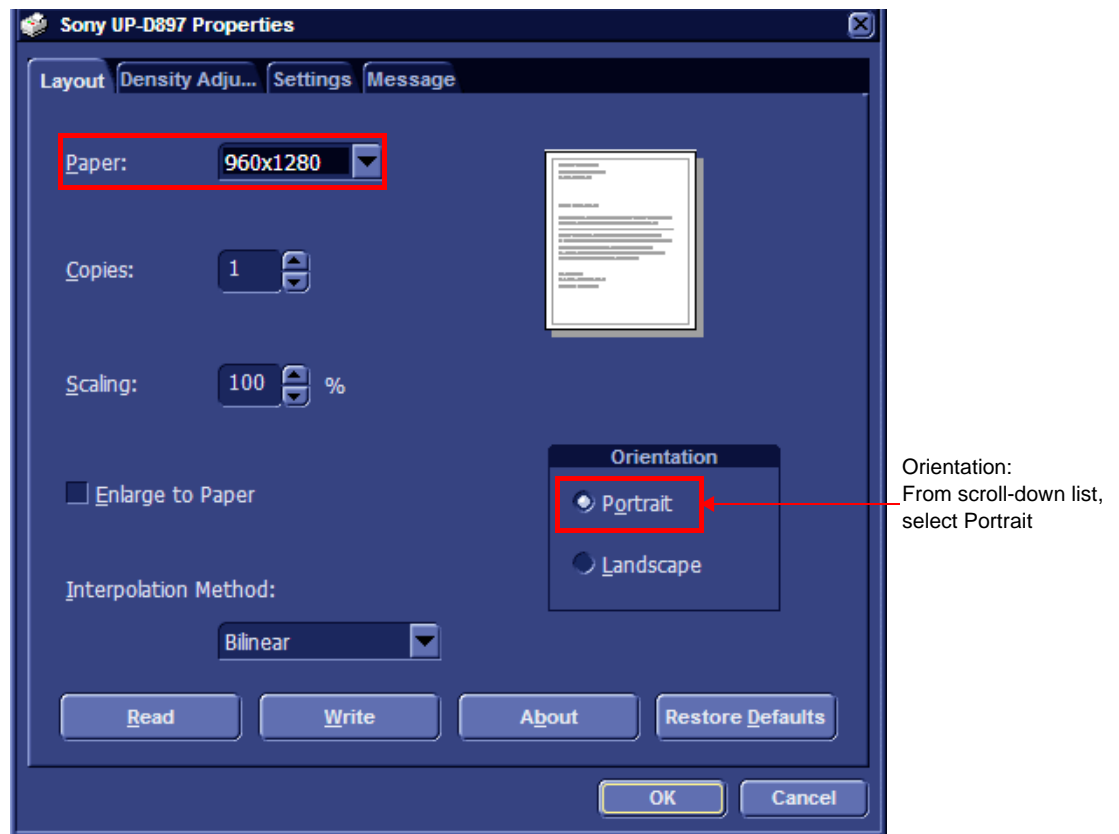

Figure 3-17 Printing Properties - Selecting Orientation
- 6.) Click **Properties**. The printer properties screen opens - Figure 3-17.